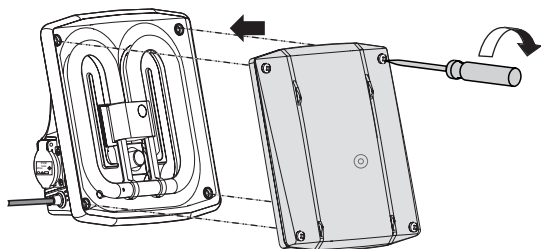

Fig. 17
5.1.5 To re-assemble the worklamp, place the cover in its original position and put the rubber protection over the cover. Then screw the cover back on with the 4 screws. (Fig. 17).